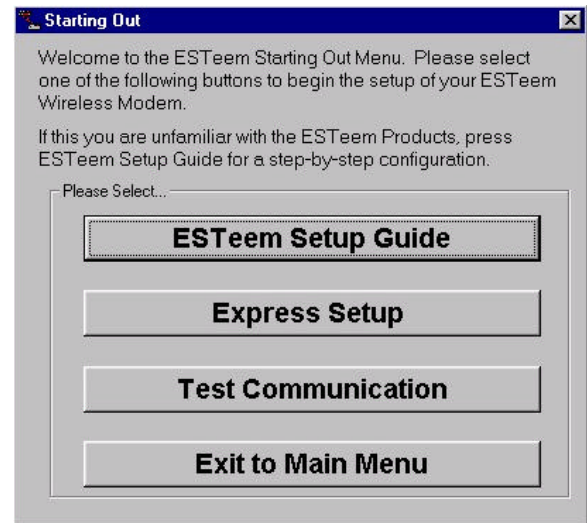

Figure 4: Starting Out Main Menu
- Select ESTeem Starting Out from the main menu. A window like the one in Figure 4 will be displayed. If this is your first time using the ESTeem wireless modems, select ESTeem Setup Guide for a complete description of all ESTeem functions. Proceed to step 2.
14. Press Complete Setup. You have just configured all operating parameters within the ESTeem. If this is your first ESTeem you have programmed for testing, press the Express Setup button on the Starting Out Menu (Figure 4) to program subsequent ESTeem Modems. The Express Setup will allow you to quickly configure the remaining ESTeem modems without additional instruction. If you have at least two ESTeems programmed and wish to test communication, proceed to step 17.